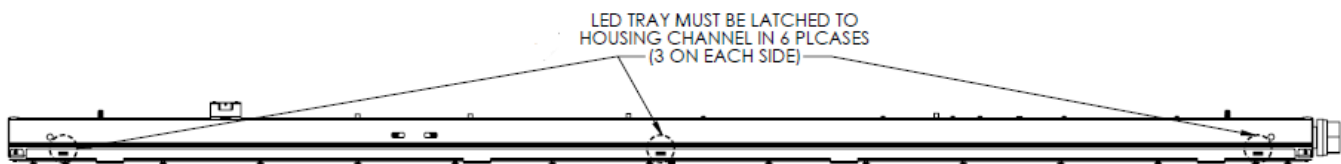

FIGURE 1
2. To open the LED tray, squeeze in on the channel below the led tray in the three places shown in figure 1 and the tray snaps will disengage releasing the LED tray. Slowly lower the LED tray until supported by the safety tethers.